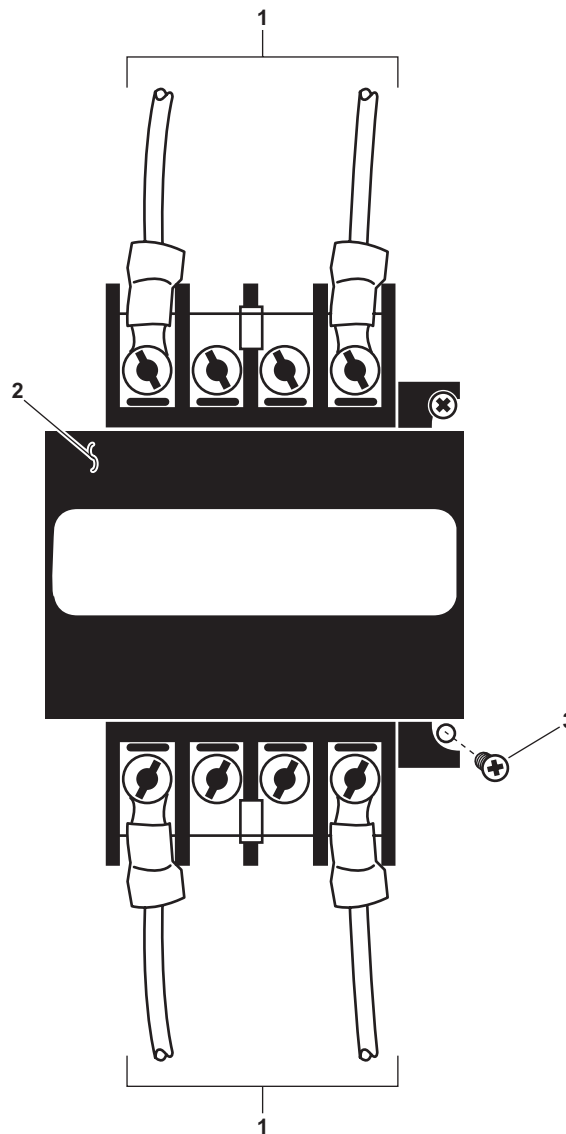

Figure 7. Transformer Replacement
2. Label and disconnect the wiring (figure 7, item 1) from the transformer (figure 7, item 2).
3. Remove the four mounting screws (figure 7, item 3) and remove the transformer (figure 7, item 2).
1. Position the transformer (figure 7, item 2) in the enclosure and secure it with the four mounting screws (figure 7, item 3).
2. Connect the wiring (figure 7, item 1) to the transformer (figure 7, item 2) using the labels from step 2 of Removal as a guide. Remove the labels.